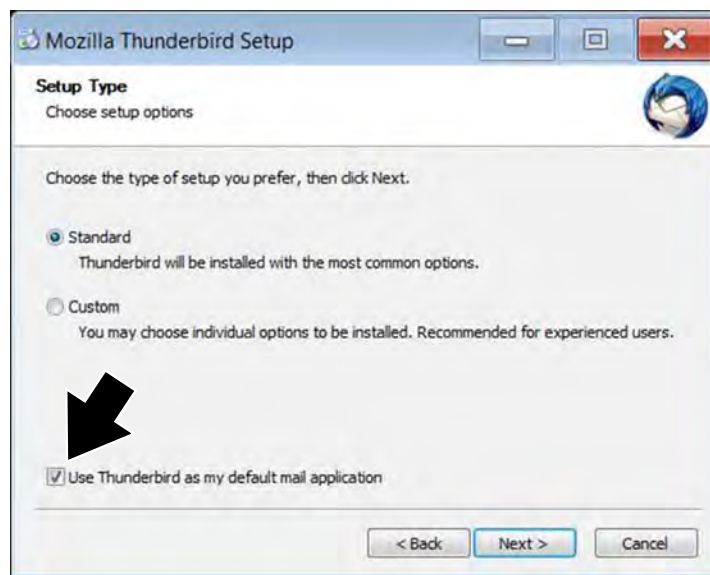

Figure 10-11
3. Continue through the setup. If available choose "set as my default mail application" (Figure 10-11).